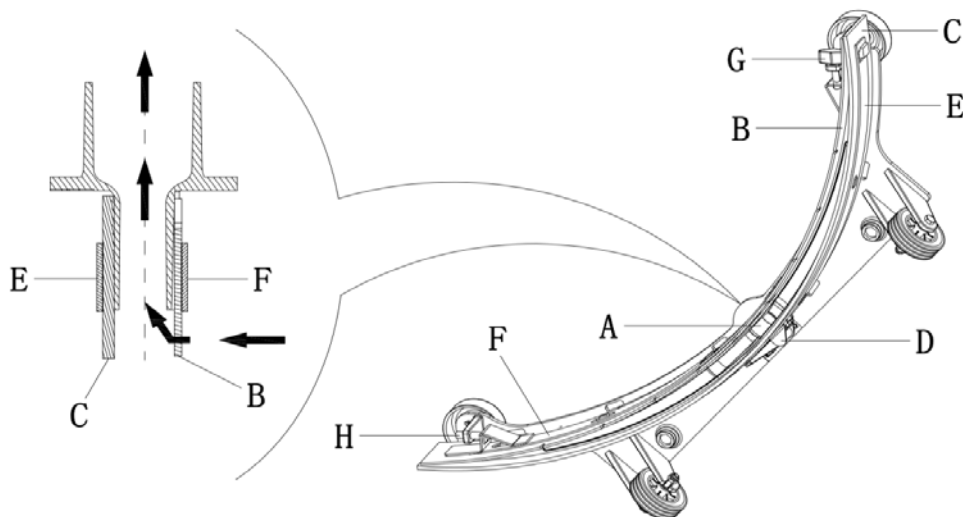

Figure 15
1. Follow the previous paragraph to cleaning the squeegee blade. (Figure 15)
2. Check the edge of front squeegee blade (B) and rear squeegee blade (C), they should at the same horizontal line, otherwise adjust their height by following procedures:
- Loosen the clip (D) to separate the rear squeegee blade (C) from the bracket (A) for the adjustment of squeegee blade, after the adjustment, lock the clip again.
- Loosen the screw (G) and bolt (H) of handle to adjust the front squeegee blade, after that, tighten the screw and bolt.
- Loosen the clip (D) to separate the fastener from the bracket (A), take off the clip bar (E), then turn the rear squeegee blade (C) upside down or replace it. Re-Install the rear blade in reverse order of uninstallation.
- Loosen the screw (G) of handle to take down the front clip bar (F), then replace the front squeegee blade (B) with new one. Re-install the front squeegee blade in reverse order of taking it off. After the squeegee blade is replaced or turned upside down, adjust the height of front and rear squeegee blades according to procedures above.
4. Install the squeegee and use the knob (16) to fasten it, and then connect the sewage suction hose (11) to squeegee.
5. If necessary, adjust squeegee balance by the squeegee adjusting knob (20).